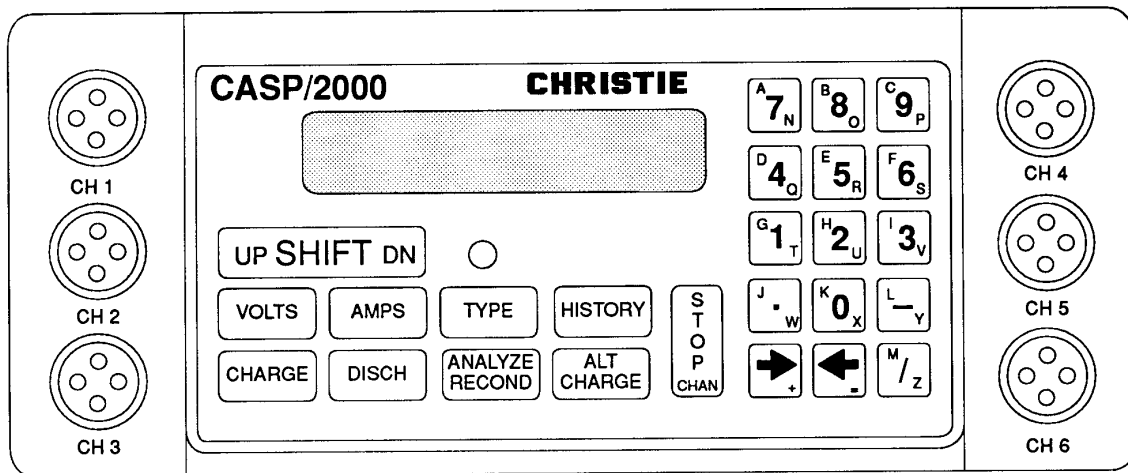

Figure 1 - CASP/2000 Control Panel
- 4.2.1 Battery charger/analyzer, Christie Electric Corp. CASP/2000 (see Figure 1). The CASP/2000 charger/analyzer must be calibrated annually and identified as such by a calibration sticker.